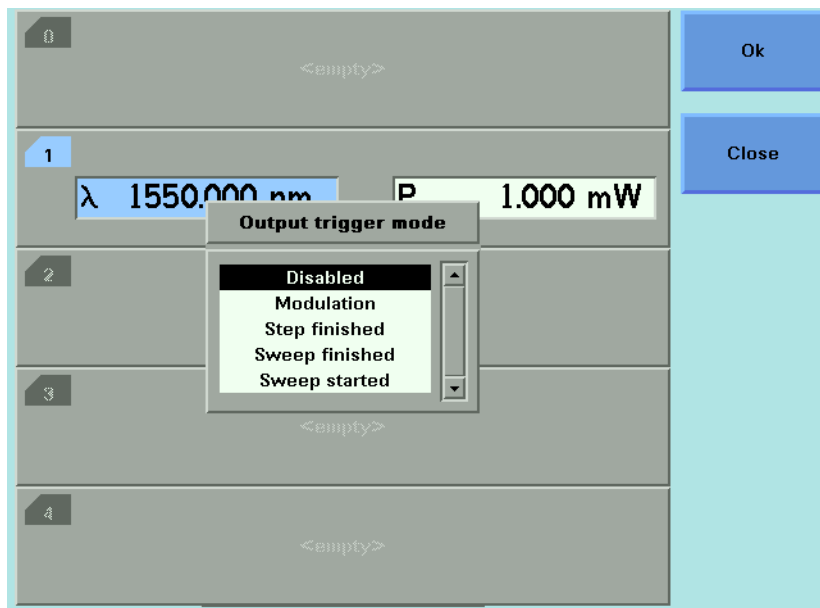

Figure 80 Output Trigger Mode
- 3 Move to <Output Trigger Mode>, by using the cursor key, and press *Enter*. You will see the screen in Figure 80 .